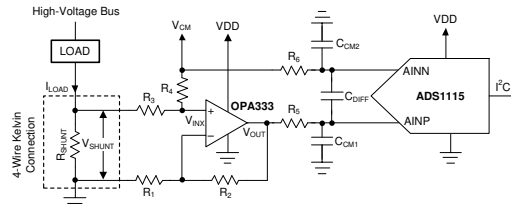

Figure 9-6. Low-Side Current Shunt Monitoring
Shunt-based, current-measurement solutions are widely used to monitor load currents. Low-side, current-shunt measurements are independent of the bus voltage because the shunt common-mode voltage is near ground. Figure 9-6 shows an example circuit for a bidirectional, low-side, current-shunt measurement system. The load current is determined by measuring the voltage across the shunt resistor that is amplified and level-shifted by a low-drift operational amplifier, OPA333. The OPA333 output voltage is digitized with ADS1115 and sent to the microcontroller using the I²C interface. This circuit is capable of measuring bidirectional currents flowing through the shunt resistor with great accuracy and precision.
- To level-shift the ground-referenced signal to allow bidirectional current measurements while running off a unipolar supply. The voltage across the shunt resistor, V_{SHUNT}, is level-shifted by a common-mode voltage, V_{CM}, as shown in Figure 9-6. The level-shifted voltage, V_{INX}, at the noninverting input, is given by Equation 5.
A shunt resistor (R_{SHUNT}) is an accurate resistance inserted in series with the load as shown in Figure 9-6. If the absolute voltage drop across the shunt, $|V_{SHUNT}|$, is a larger percentage of the bus voltage, the voltage drop can reduce the overall efficiency and system performance. If $|V_{SHUNT}|$ is too low, measuring the small voltage drop requires careful design attention and proper selection of the ADC, operation amplifier, and precision resistors. Make sure that the absolute voltage at the shunt terminals does not result in violation of the input common-mode voltage range requirements of the operational amplifier. The power dissipation on the shunt resistor increases the temperature because of the current flowing through the resistor. To minimize the measurement errors resulting from variation in temperature, select a low-drift shunt resistor. To minimize the measurement gain error, select a shunt resistor with low tolerance value. To remove the errors caused by stray ground resistance, use a four-wire Kelvin-connected shunt resistor, as shown in Figure 9-6.